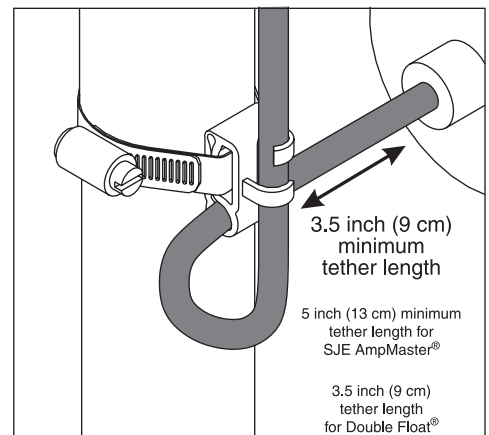

FIGURE 3
3. Mount float switches at appropriate levels as illustrated in **Figure 3**. Be sure that floats have free range of motion without touching each other or other equipment in the basin.
4. For mounting clamp installation: place the cord into the clamp as shown in **Figure 3**. Locate the clamp at the desired activation level and secure the clamp to the discharge pipe as shown in **Figure 3**.